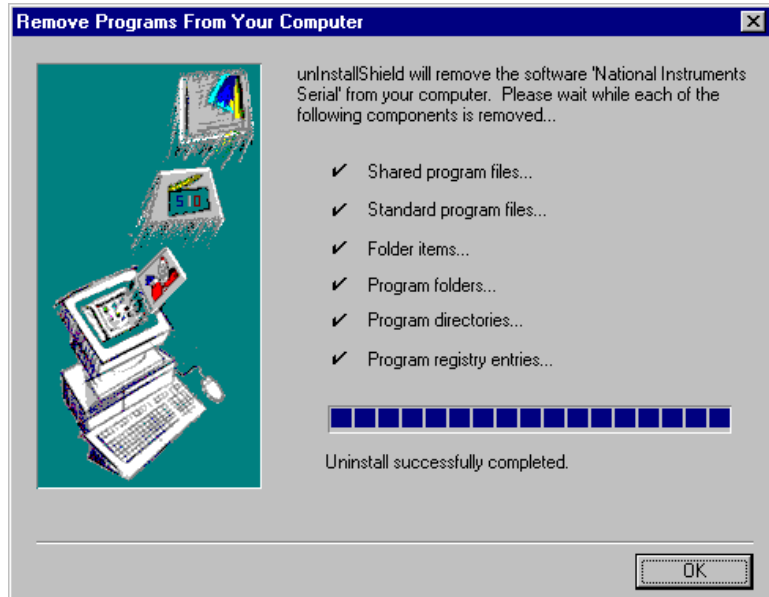

Figure B-3. Successful Uninstallation
3. Select the serial software you want to remove, and click on the **Add/Remove** button. The uninstall program runs and removes all folders, programs, VxDs, DLLs, and registry entries associated with the NI-Serial software. Figure B-3 shows the results of a successful uninstallation.